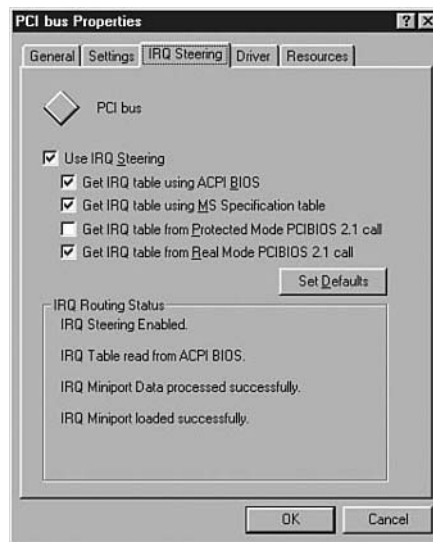

Figure 5.5 Ensuring that IRQ steering is enabled in Windows 9x/Me.
3. Double-click PCI Bus, and then click the IRQ Steering tab (see Figure 5.5). There will be a check that displays IRQ steering as either enabled or disabled. If enabled, it also specifies where the IRQ table has been read from.